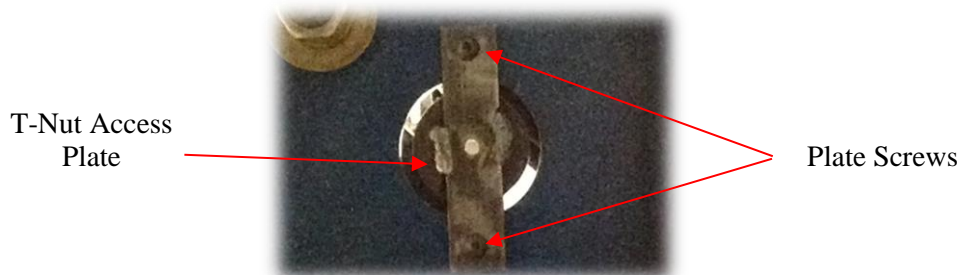

Figure 8: ENG-511001 T-Nut Access Port (Underneath Table Top)
- c. In prior versions, the t-nuts are installed through the bottom of the test stand and into the universal flange slots. See Figure 8. There are four access points, one for each slot on the universal flange.